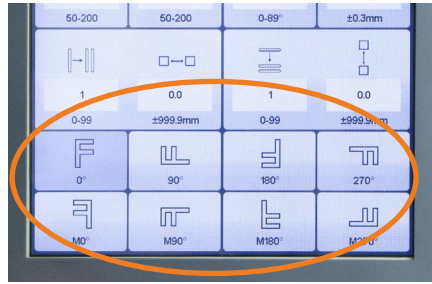

Figure 81
1. Select the desired rotation option from the bottom two rows of the Design Settings menu. **See Figure 81.**